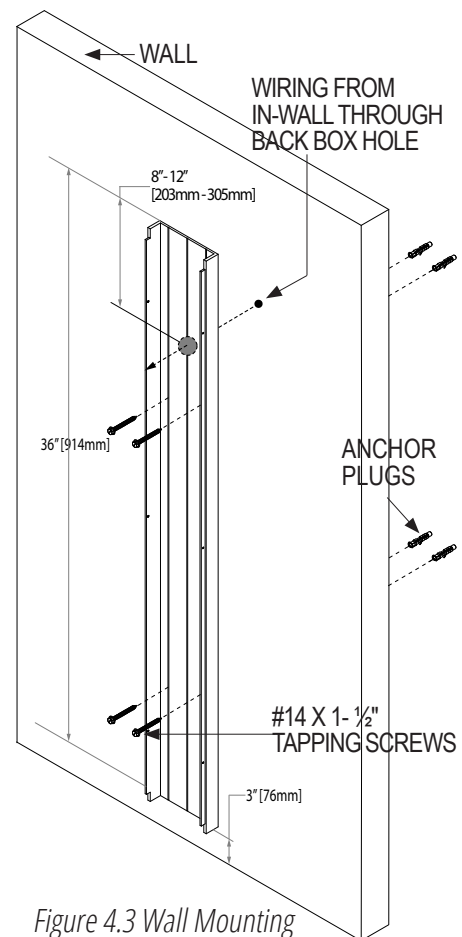

Figure 4.3 Wall Mounting
12. Secure the Back Box to the wall with the #14 x 1-1/2" tapping screws provided. (Figure 4.3 and 4.4)
12. Secure the Back Box to the frame with the 1/4"-20 machine screws. (Figure 4.3 and 4.4)